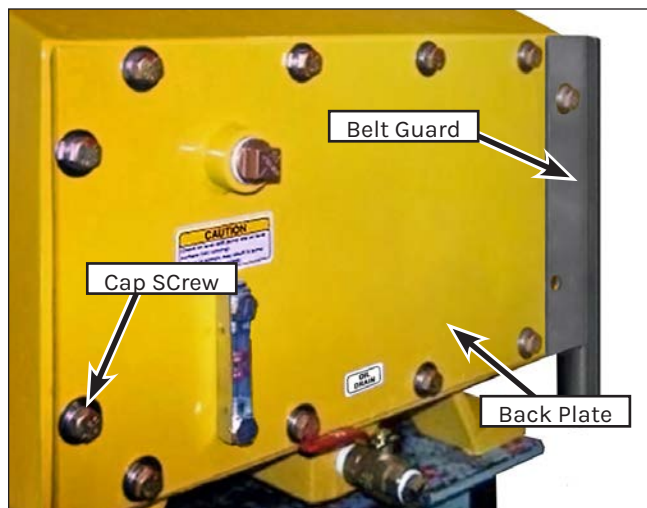

Figure 154: Back Plate Removal.
2. Once drained, remove the capscrews, washers and lockwashers from the back plate (Figure 154). Remove the plate, belt guard and gasket. If the gasket is stuck to the frame, it can remain.